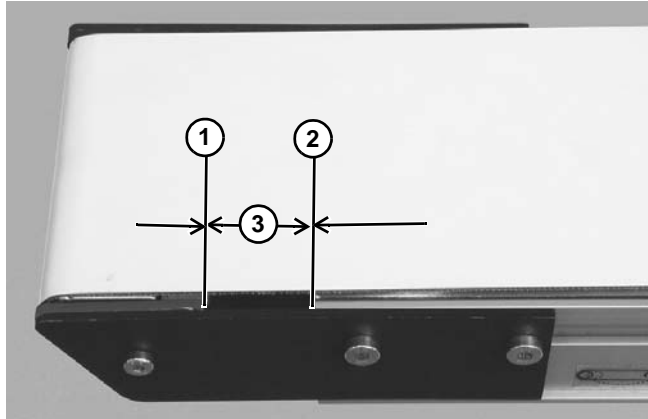

Figure 42
- Adjust head plate assembly so the edge of the axle support plate (**Figure 42, item 1**) is separated from the end of the conveyor (**Figure 42, item 2**) by 1.125" (29 mm) (**Figure 42, item 3**). Replace belt if proper tensioning can not be obtained within a distance of 1.50" (38 mm). See NOTE.